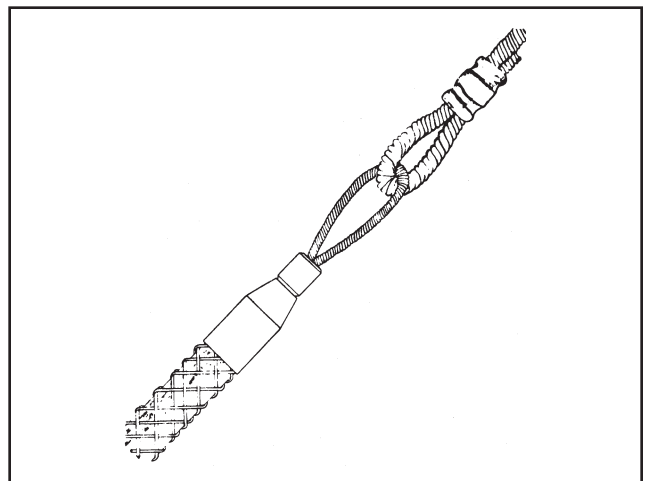

Figure 5
d) Where appropriate, use a basket grip over the insulation to attach the pull line to the conductor or conductors (Figure 5).